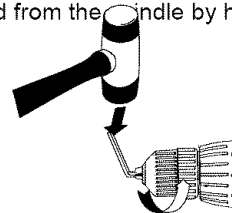

Fig. 12
7. Insert hex key into chuck and tighten jaws of chuck securely (see Fig. 12). Tap the hex key sharply with a mallet in a COUNTERCLOCKWISE direction. This will loosen the chuck on the spindle. The chuck can now be unscrewed and removed from the spindle by hand.